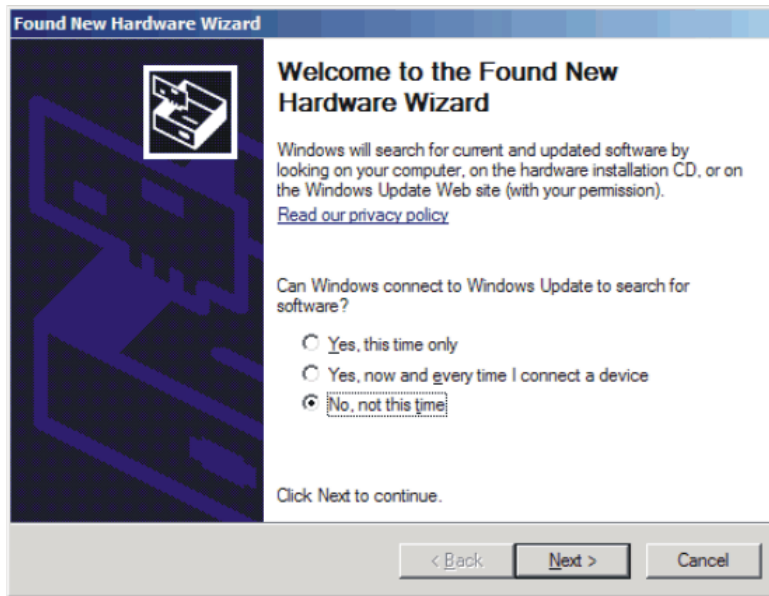
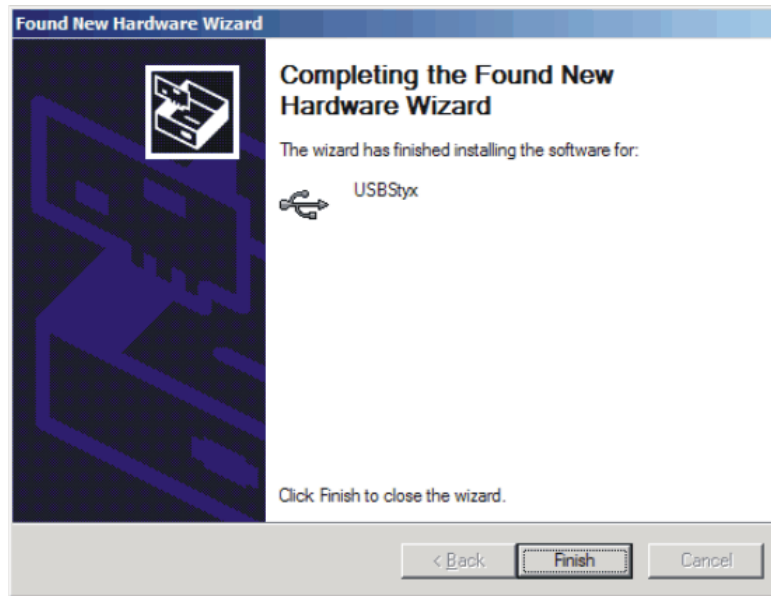

Figure 23. Install New Driver Wizard Screen 1
Figure 27. Install New Driver Wizard Screen 5
4. If you have not yet loaded the operating system drivers, Windows will display the Windows *Install New Driver Wizard* sequence (illustrated in Figure 23 through Figure 27). Accept the default settings.